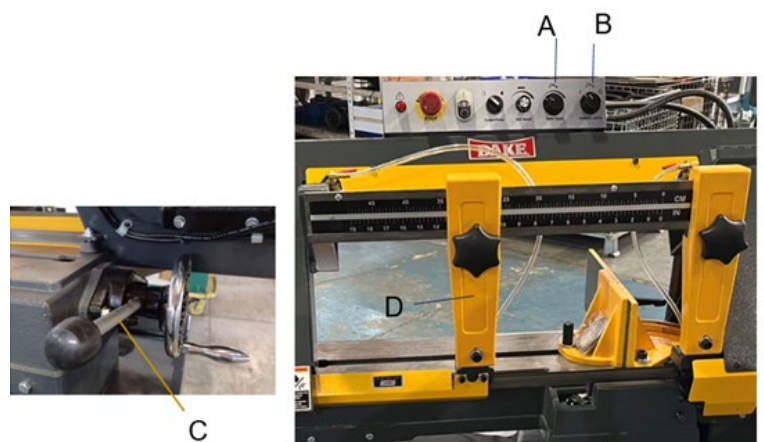

Fig.20
3. Raise the saw frame and close the feed on/off knob (B) Fig. 20.
4. Place the stock workpiece Fig. 20, between the vise jaws. Adjust the stock for the desired length of cut and tighten the vise clamping hand wheel (C).
5. Make sure the blade guide arm (D) Fig. 20, is adjusted as close as possible to the workpiece.
7. Turn the feed rate control knob (A) Fig. 20, counterclockwise until the saw blade begins to lower at the desired rate of speed.
9. After adjusting the down speed (A), the saw frame position and down movement are controlled by workpiece on/off knob.